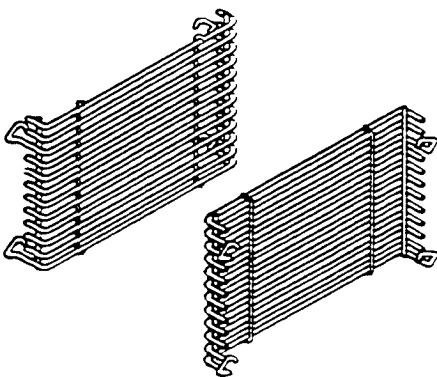

Figure 2-3. Slide Racks
3. Remove the slide rack carton from the cooking compartment. The package contains four slide racks (two for each cooking compartment) as illustrated in Figure 2-3.